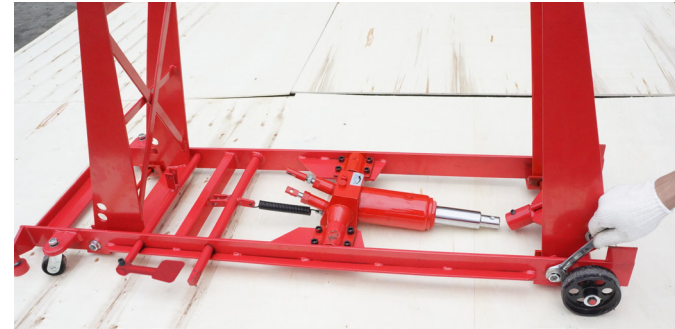

Fig. 3
3. Install Front Lifting Arm (47) and Rear Lifting Arm (33) onto Fixed Axis (2) of the Base Plate, and tighten Nuts (61) and Washers (60). (Fig.3)